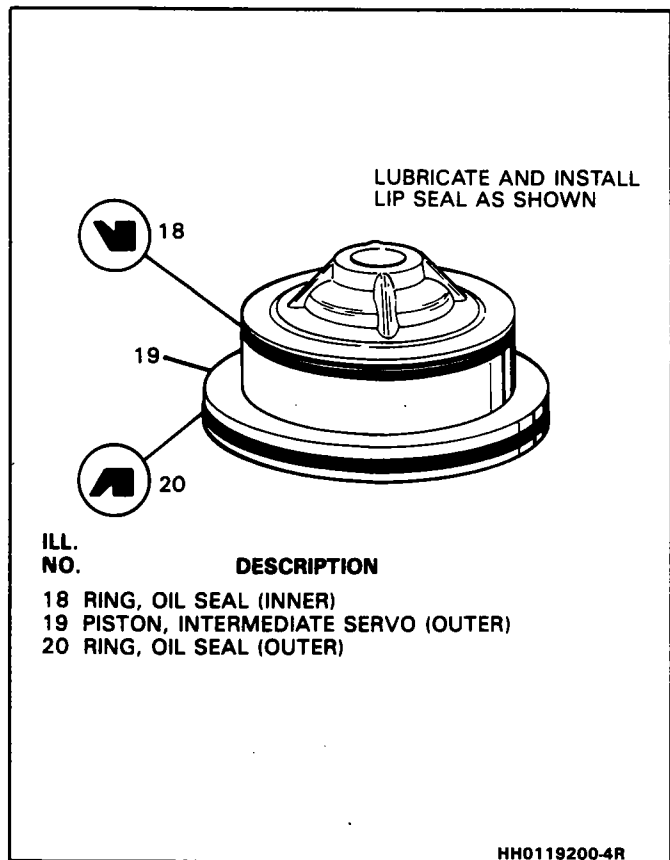

Figure 115 Intermediate Servo Piston Assembly
**⇔ Install or Connect (Figures 115 and 116)**